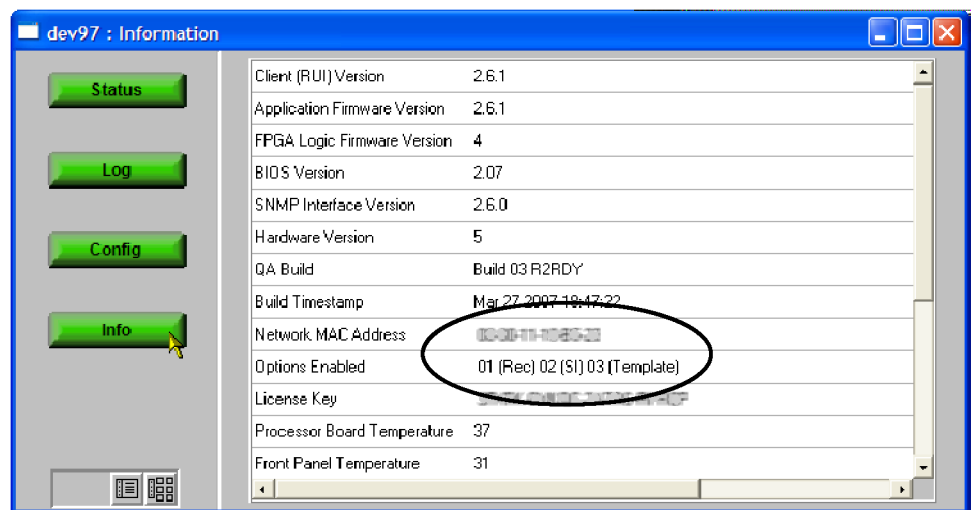
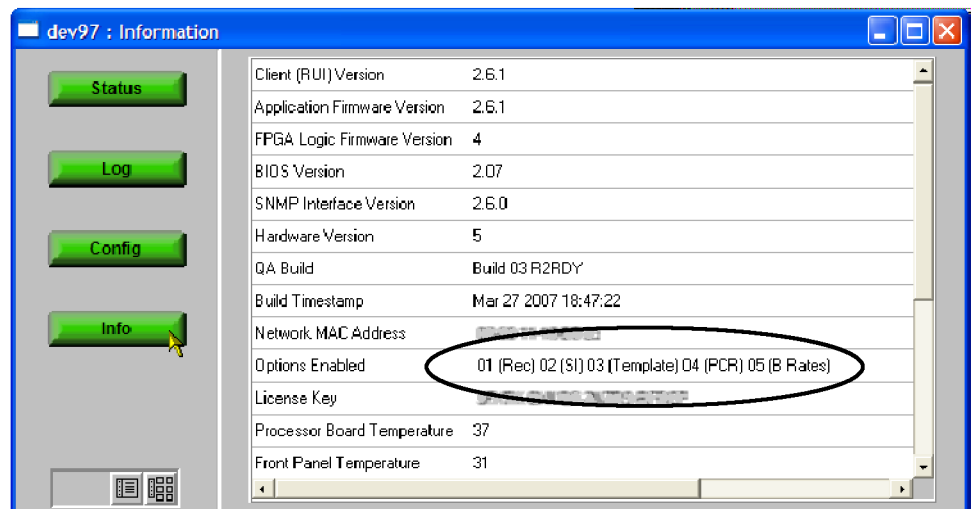
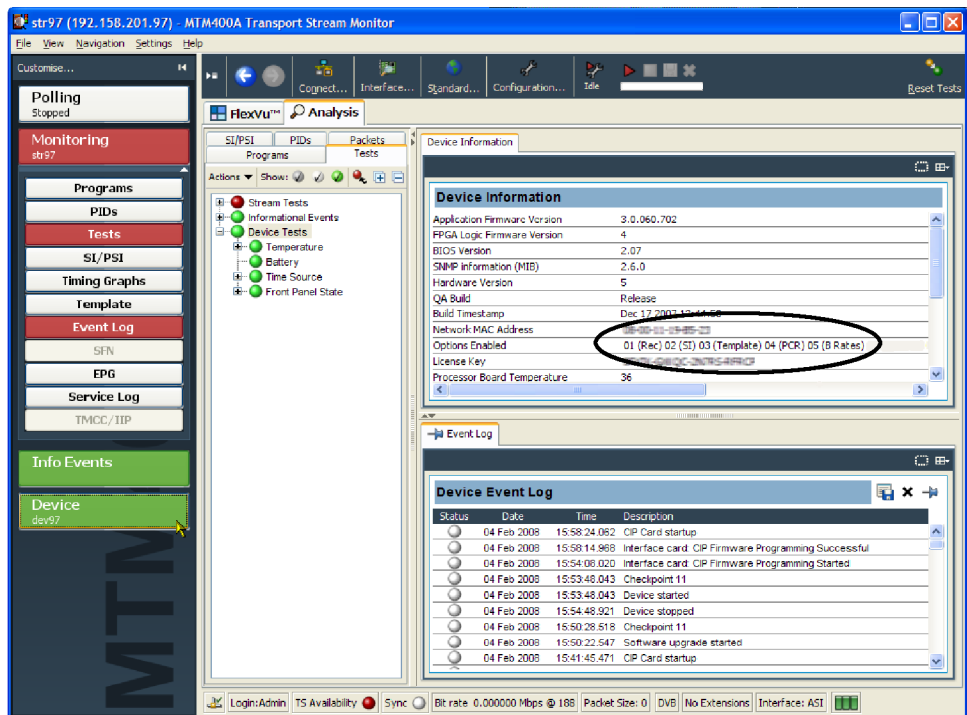

Figure 23: Device Information view (RUI v2.1.0 to v2.6.1)
Figure 31: Device view Information screen (RUI v2.6.1 and below)
Figure 32: Device Information view (RUI v3.0 and above)
Device Information view for firmware versions 2.1.0 and later - (See Figure 23.)
9. Make a note of the software options that are currently enabled on the monitor. (See Figure 23.)
1. If you logged off the monitor after you performed the upgrade, perform steps 1 through 7 starting on (See page 43.). Otherwise, in the Device view of the upgraded monitor, click **Info** to open the Information screen. (See Figure 31.)
For example, options 04 and 05 were enabled, but options 01, 02, and 03 are still enabled as they were prior to the upgrade. (See Figure 23.) and (See Figure 31.)
1. Perform steps 1 through 6 to display the Device Information view. (See Figure 32.)
For example, options 04 and 05 were enabled, but options 01, 02, and 03 are still enabled as they were prior to the upgrade. (See Figure 23.) and (See Figure 32.)